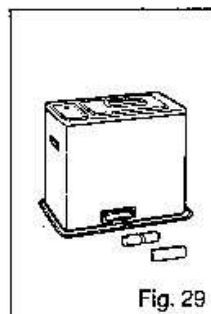

Fig. 29
- (5) The batteries should be taken out from the battery case because they may leak and corrode the kerosene heater. (Fig. 29)
- (6) Store the kerosene heater with the tip-over extinguishing device deactivated and the wick lowered down.